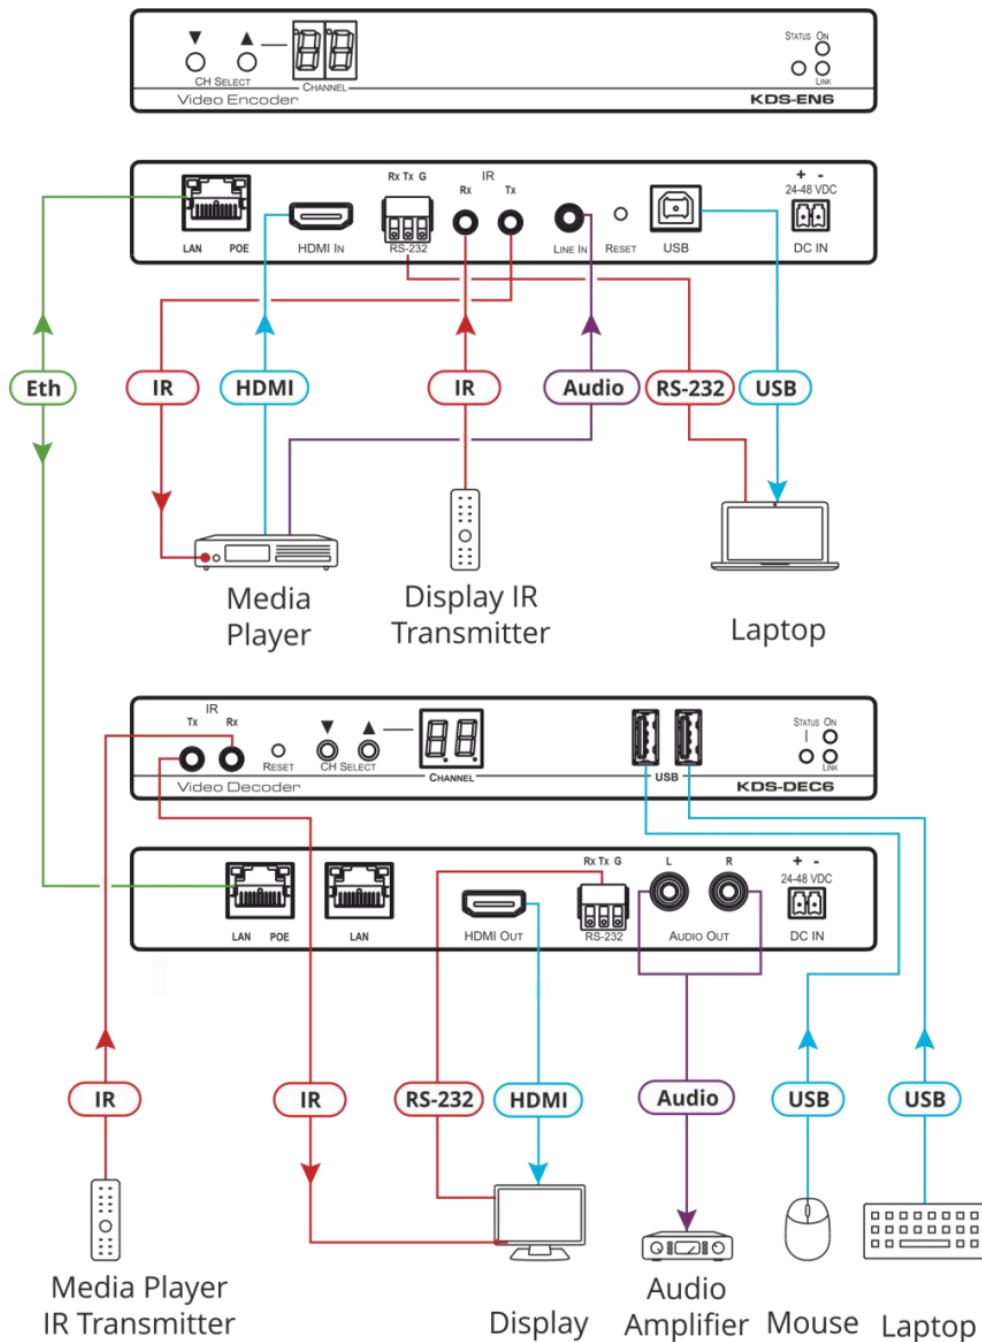

Figure 5: Connecting an Encoder and Decoder System
You can use one **KDS-EN6** device and one **KDS-DEC6** device to configure an encoder and decoder system (see Figure 5).
Figure 5:
4. If you are not powering the device via PoE, connect the **KDS-DEC6** and the **KDS-EN6** to the 24-48V DC power adapter and connect the adapter to the mains electricity (not shown in Figure 5).